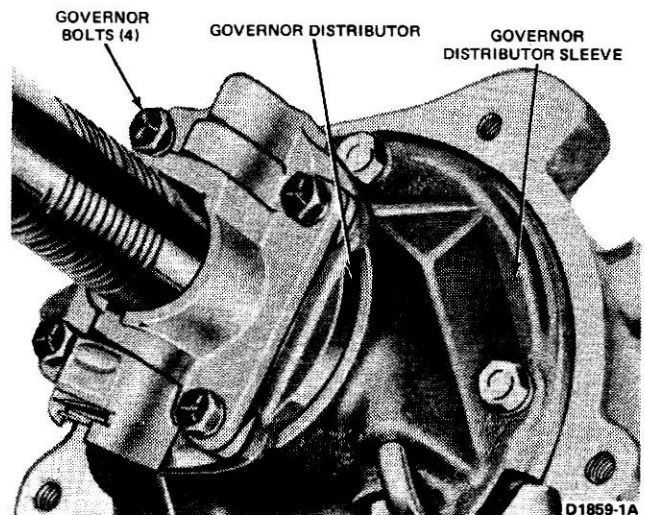

FIG. 13 Governor Installed
2. Remove the governor housing-to-governor distributor attaching bolts (Fig. 13). Remove the governor housing from the distributor.
4. Install the governor housing on the governor distributor (Fig. 13). Install the attaching bolts and torque the bolts to specification, as listed at the end of this Part.